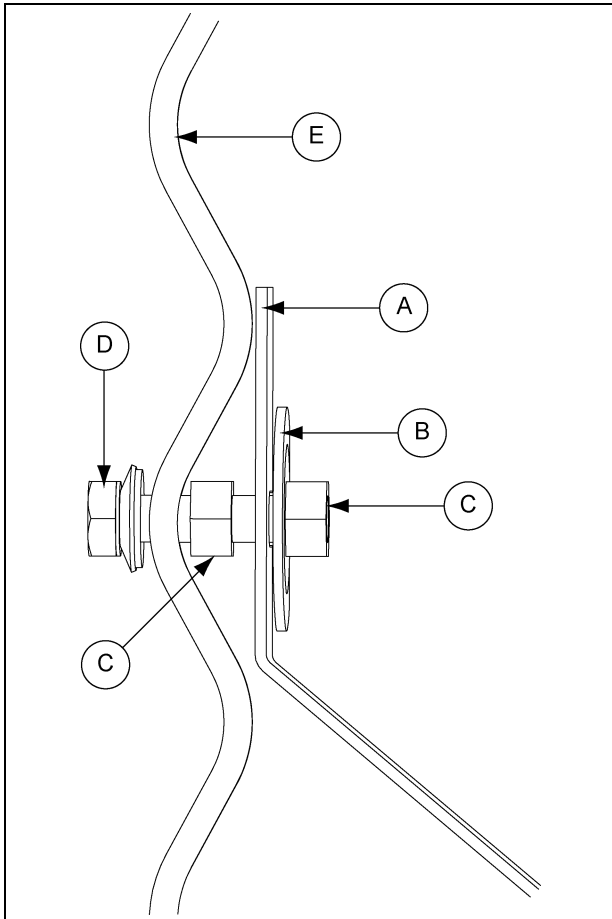

Figure 19A Flashing Hardware
2. Attach left side of the first piece of flashing to the sidewall using the connection as shown in Figure 19A. Working clockwise, overlap the flashing at the right hand hole of each piece of flashing. **NOTE:** *If bolts are installed at flashing seam location they will need to be removed.*